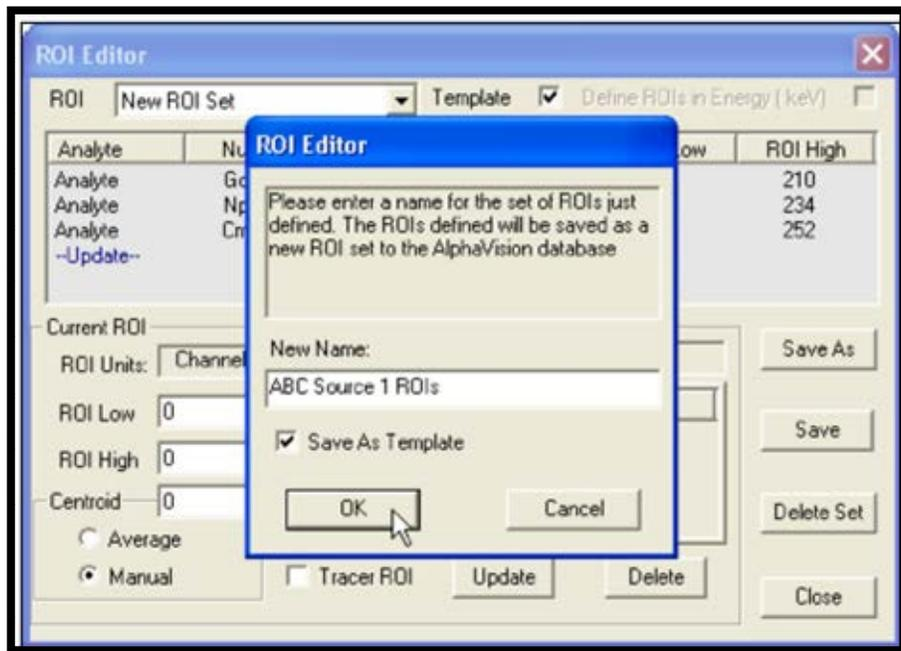

Figure 90. Save New ROI Set
- 12) The new **ROI Set** is now ready to use. Click **Save**, enter a **New Name**, decide whether or not to mark the **Save As Template** checkbox, and click **OK** to close the editor window (Figure 90). If the user entered the ROI Editor from the Manual Energy and Efficiency Calibration dialog, AlphaVision will automatically load the contents of the new ROI Set into the calibration dialog.